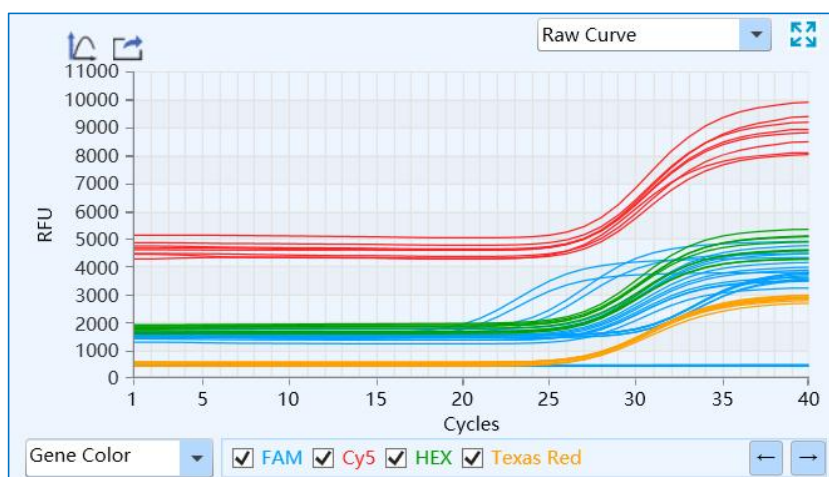

Figure D-9.5. Abs Quant Analysis Interface - Raw Curve Functional Module
- V. **Raw Curve**: display the diagram of raw amplification curve without subtract baseline, as shown in figure D-9.5. The parameters and function keys of raw curve functional module are same with those of amplification curve functional module.